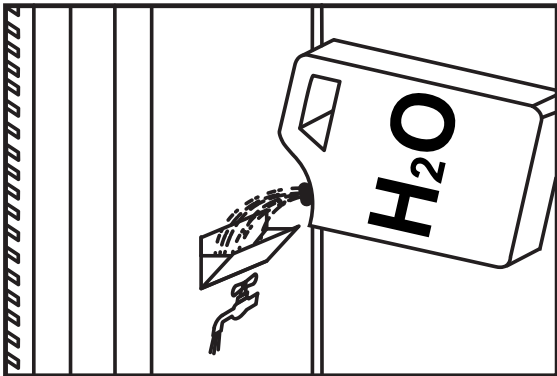

Fig. 3
- 4.1.2. Fill the tank with water (Fig. 3); water level must be within MIN and MAX level of